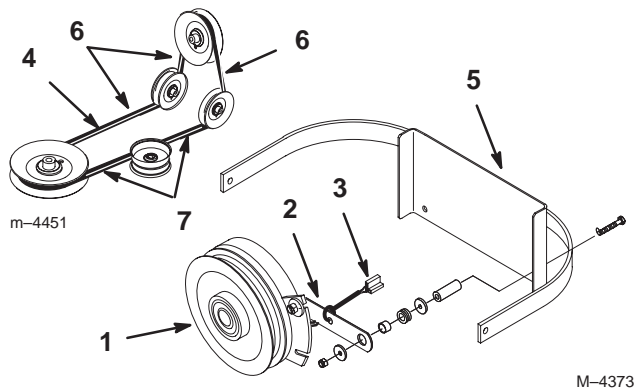

Figure 61
2. Remove the clutch retaining strap from machine frame and unplug clutch terminal from wire harness (Fig. 61).
3. Remove PTO drive belt from rear idler arm and front idler pulley assembly. Remove the PTO drive belt (Fig. 61).
4. Place new drive belt over clutch, around rear idler pulley, installed into rear idler arm assembly, installed into front idler pulley assembly and onto top center pulley (Fig. 61).
Important Check the amount of twist in belt between pulleys. Make sure it is only what is specified in figure 61.
5. Install clutch retaining strap and plug clutch terminal into main wire harness (Fig. 61).